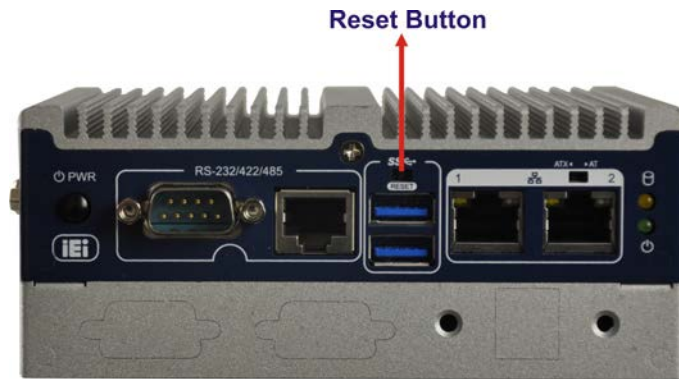

Figure 3-16: Reset Button Location
Step 1: Locate the reset button on the front panel (**Figure 3-16**).